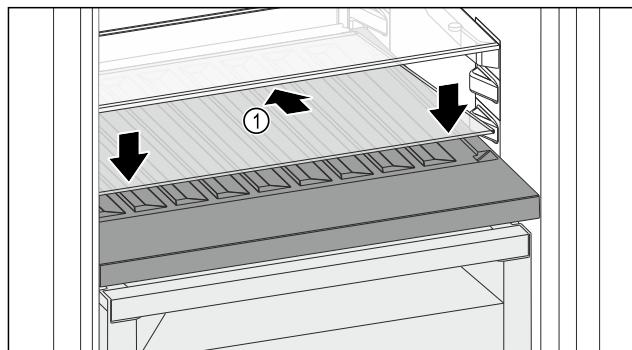

Fig. 114
- ▶ Place the glass shelf Fig. 114 (1) at an angle, tilted back and down.
- ▶ Lower the glass shelf Fig. 114 (1) at the front.